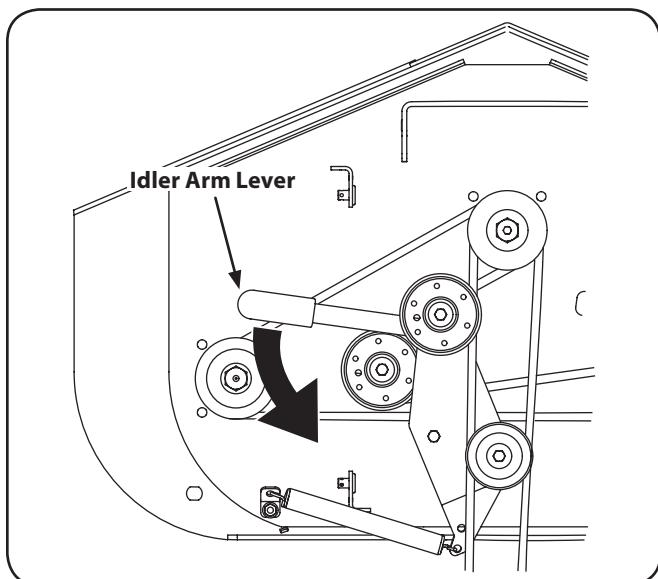

Figure 7-2
- Remove tension off the PTO belt by moving the belt tensioning rod. See Fig. 7-2.
- Remove tension of the PTO belt by moving the belt tensioning rod. See Fig. 7-2. Loosen the belt retaining bolt.